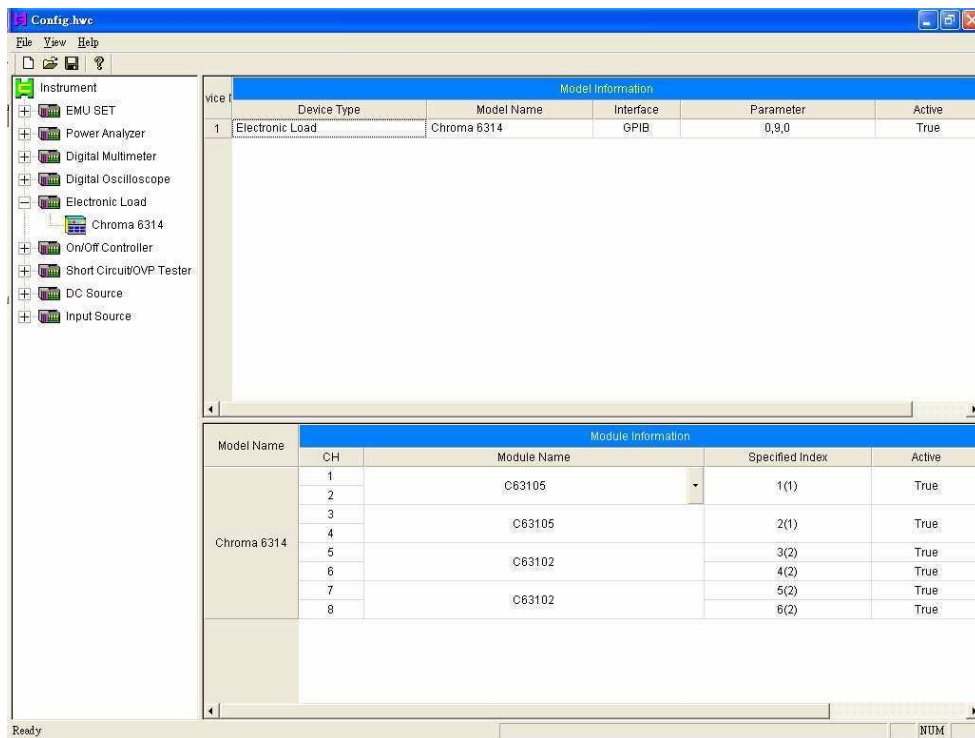

Figure 4-4 Load Module Specified Window
① **Note**
- As the Figure 4-4 shows below, the parenthesis in Spec. Index column means the connection between Logic Channel and sub logic Channel after connected. Take 2 (1) as an example, the number inside the parenthesis stands for the logic Channel (Connection column value) after connected. Thus 1(1) and 2(1) means the logic Channel 1 and logic Channel 2 are connected, but treated as logic Channel 1 is connected.